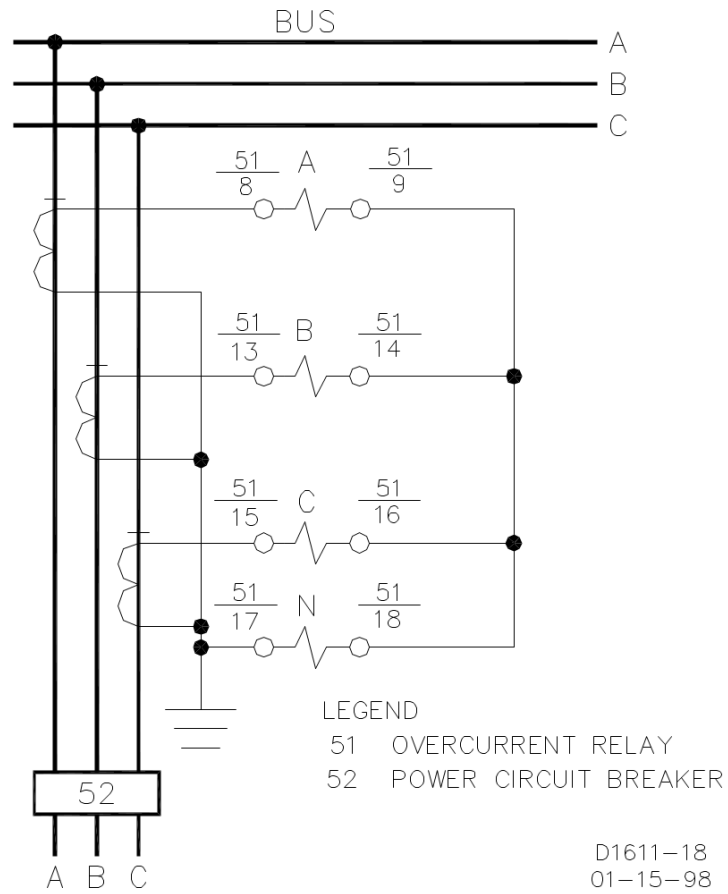

Figure 4-16. Typical Sensing External Connections, Sensing Input Type H or V
- Figure 4-16: Typical Sensing External Connections, Sensing Input Type H or V